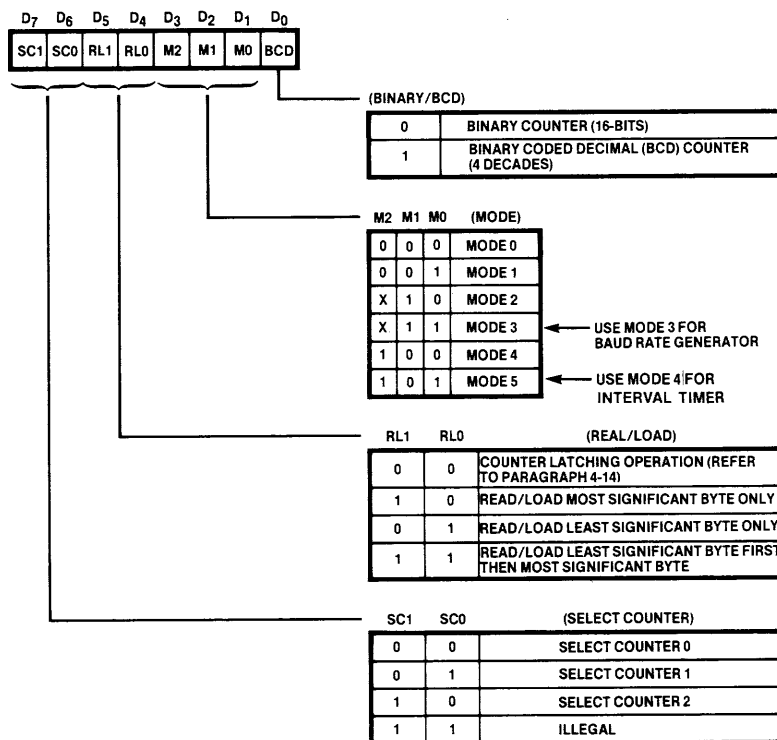

Figure 3-4. PIT Mode Control Word Format
- a. A mode control word (figure 3-4) is written to the control register for each individual counter.
The mode control word (figure 3-4) does the following:
The count mode selected in the control word controls the counter output. As shown in figure 3-4, the PIT chip can operate in any of six modes; however, the iSBC 544 normally uses only Mode 3 and Mode 4 as follows:
- a. Write mode control word for PIT 0 Counter 0 to DB. Note that *all* mode control words for PIT 0 are written to DB since mode control word must specify which counter is being programmed. (Refer to figure 3-4.) Table 3-4 provides a sample subroutine for writing mode control words to the six counters comprising PIT 0 and PIT 1.